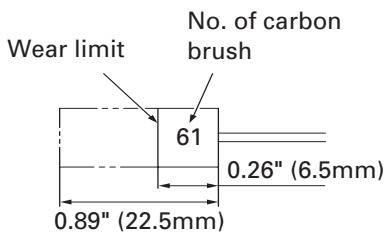

Fig. 6
4. Inspecting the carbon brushes (Fig. 6)
**NOTE:** Use HITACHI carbon brush No. 61 indicated in Fig. 6.